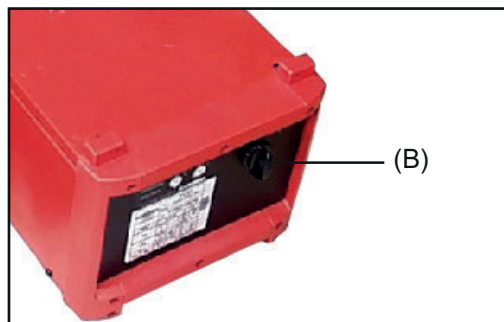

Fig.4 Main machine switch
- 1 Switch main machine switch (B) (Fig.4) on auto-transformer to the „O“ position